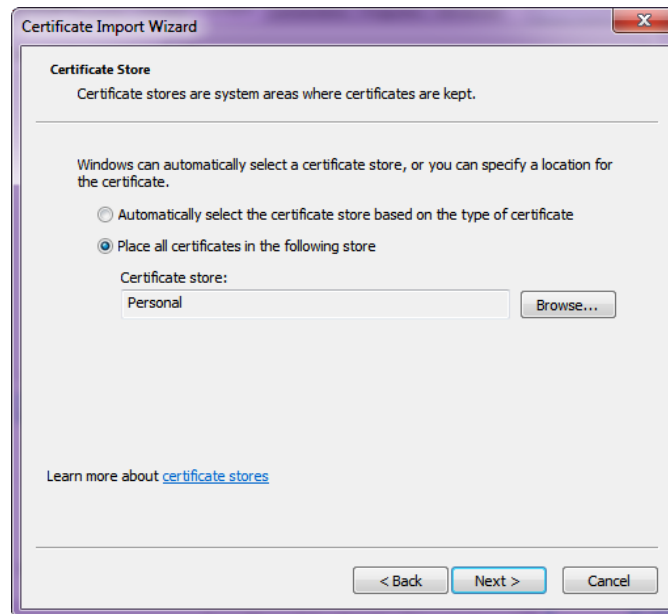

Figure 56: Place All Certificates
7. The dialog shown in Figure 56 appears, prompting for where the certificates should be stored on the PC. Select Place all certificates in the following store and click Browse.